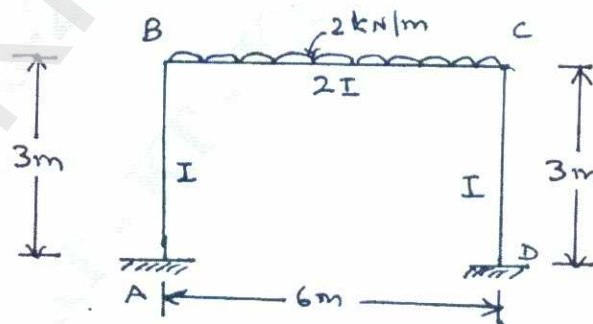

Fig. Q3
- 3 Analyze the portal frame by moment distribution method and draw BMD and SFD as shown in Fig. Q3. (20 Marks)